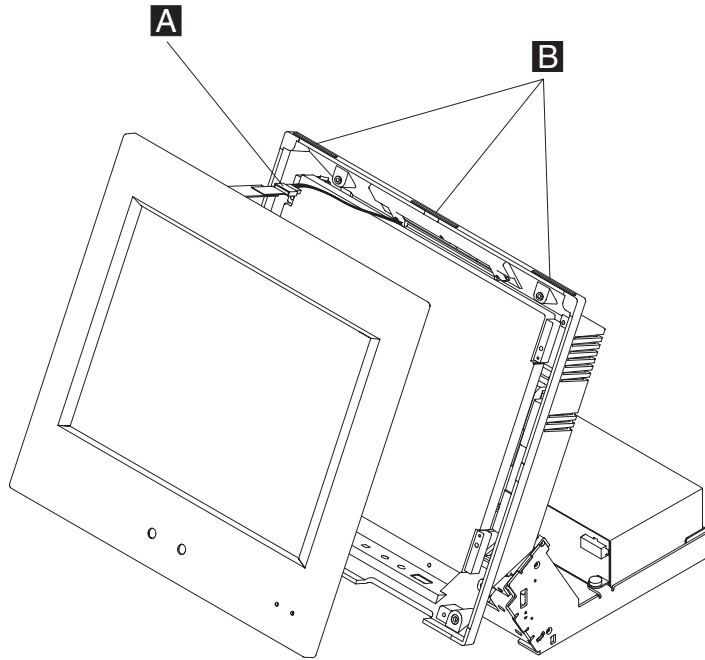

Figure 67. Remove the non-touch screen from the hooks
5. From the front of the system, pull the bottom corners of the screen forward slightly. On Model 561, the presence sensor cable must be unplugged from the left side of the system. Lift the screen off the three hooks **B** on the display. See Figure 67.